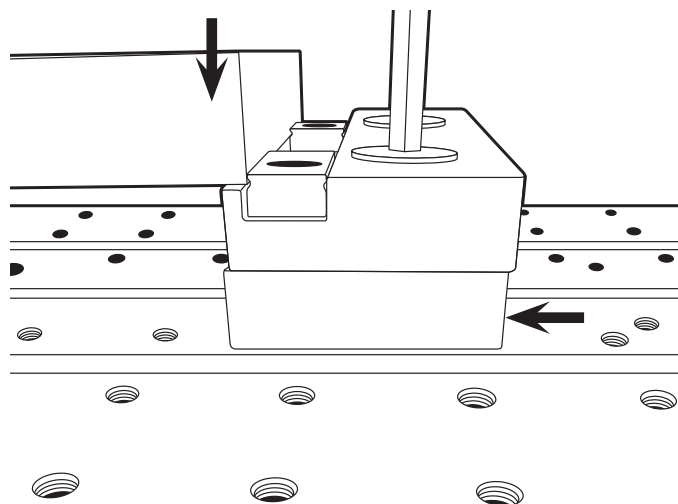
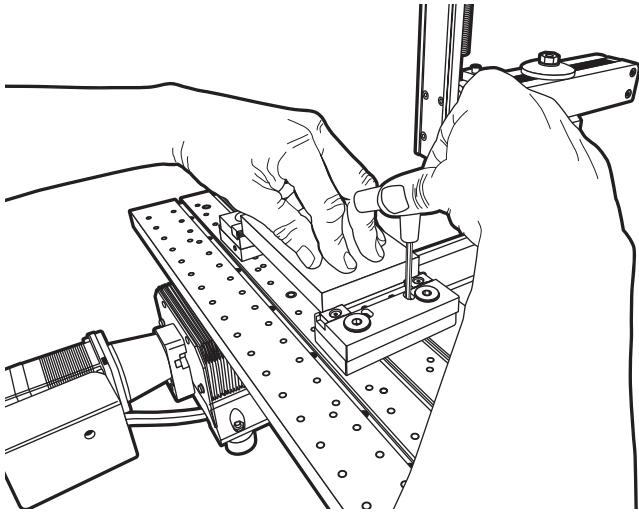

FIGURE 14—Push the part down while pushing the MBP in toward the part as indicated by the arrows.
FIGURE 15
Now while holding the part down, push the MBP in toward the part. The MBP should move in and the top jaw should stay located against the part (see Figure 14).
13. Now with the top jaw inserts against the part and the MBP pushed in toward the part, hold the part down lightly. Then tighten the two T-nut screws to lock down the MBP in its current position (see Figure 14). Use the same torque specifications as with the fixed jaw assembly (see Figure 15 on the following page).